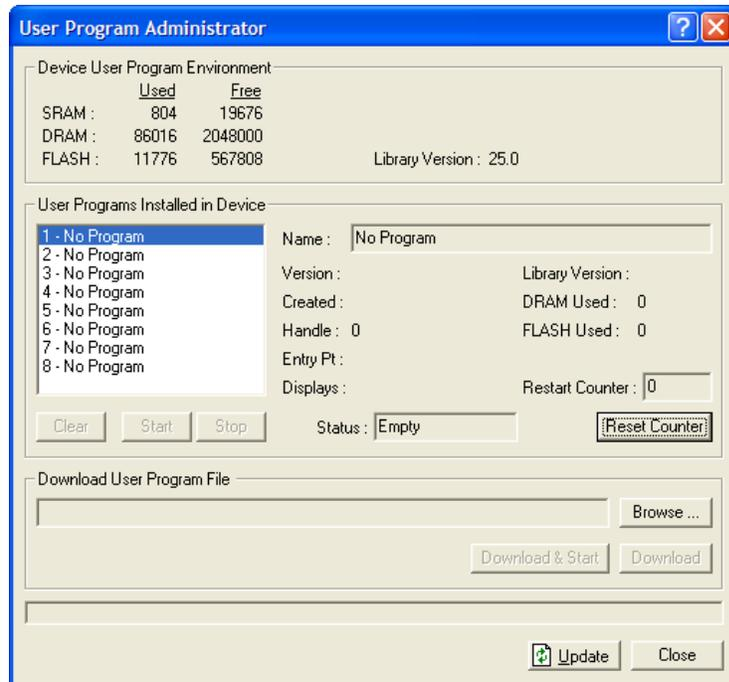

Figure 2-8. User Program Administrator
3. Select **Utilities > User Program Administrator** from the ROCLINK menu bar. The User Program Administrator screen displays (see *Figure 2-8*):